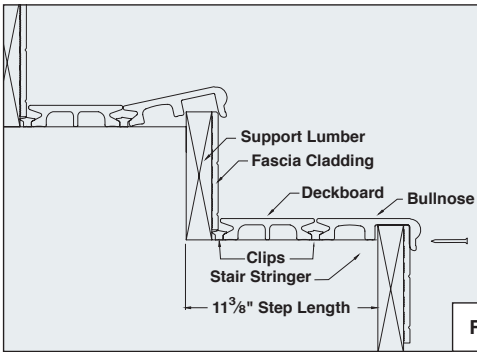

FIG.10e
- Cut bullnose to length and fit under last row of clips. Snap bullnose into place over support lumber and fascia cladding. (REFER TO FIG.10e)
- Pre-drill ³/₁₆" holes every 24" into the lower lip of the bullnose and through the fascia cladding. Slot all holes ³/₈" in the bullnose lip to allow for expansion and contraction. (REFER TO FIG.10e)